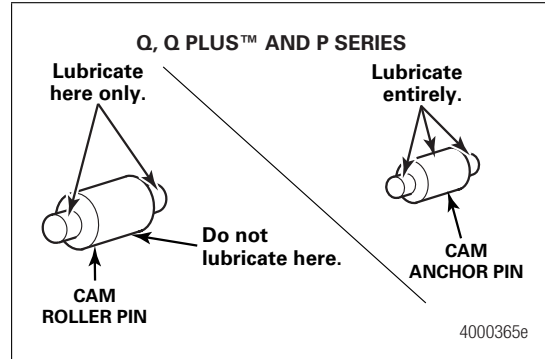

Figure 5.13
1. Use Meritor specification O-617-A or O-617-B grease to lubricate the brake shoe roller pin and anchor pin. Figure 5.13.
1. Lubricate the camshaft roller pin and anchor pin with Meritor specification O-617-A or O-617-B grease. Figure 5.13.